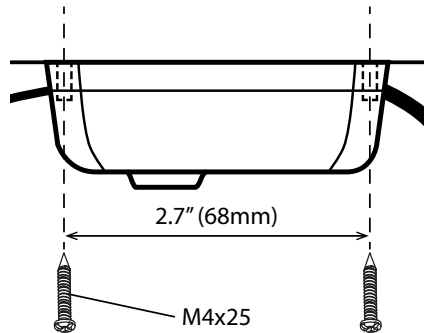

Fig. 2
Mount RX1200 main housing using the two (2) screws provided. See Fig 2.